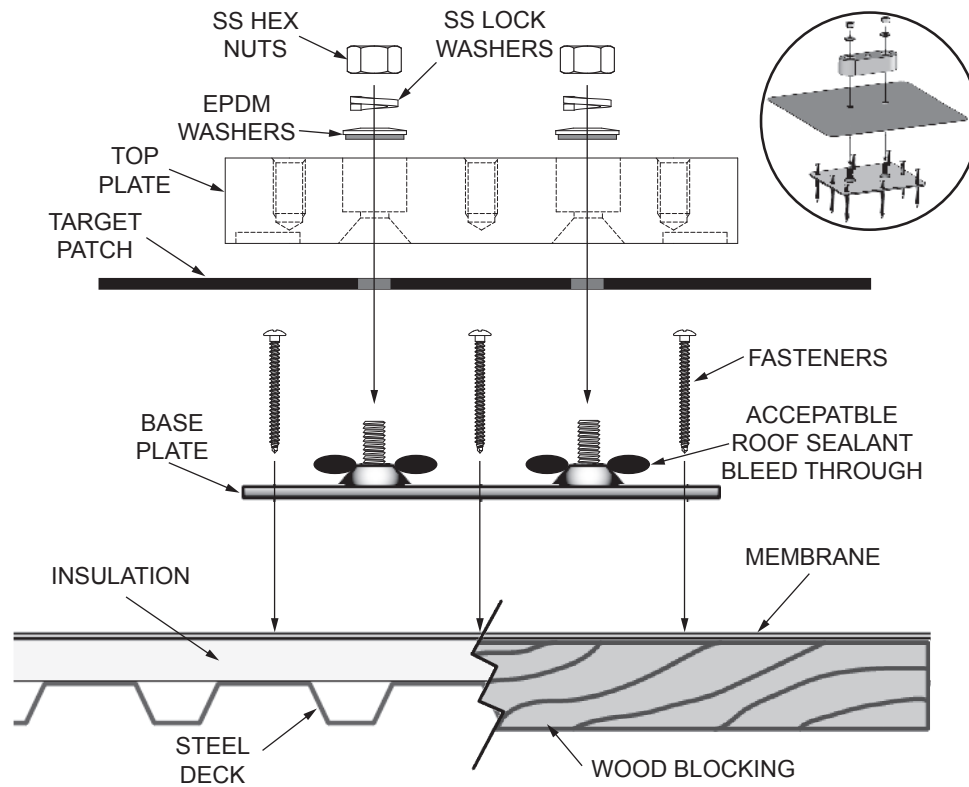

Figure 5.
- Install the included #14 x 3" OMG Heavy Duty Roof Fasteners or other suitable fasteners (dependent upon the roofing material type) through the holes in the perimeter of the base plate. See Figures 5 & 8.
7. The threaded studs should be the only part of the base plate that is exposed. There may be bleed out of the sealant applied around the studs. When the top plate is installed this will help create a water tight compression fitting. See Figure 5.
installed properly. See Figure 5.
9. Install an EPDM bonded washer, stainless steel lock washer, and hex nut over each stud and tighten. See Figure 5.